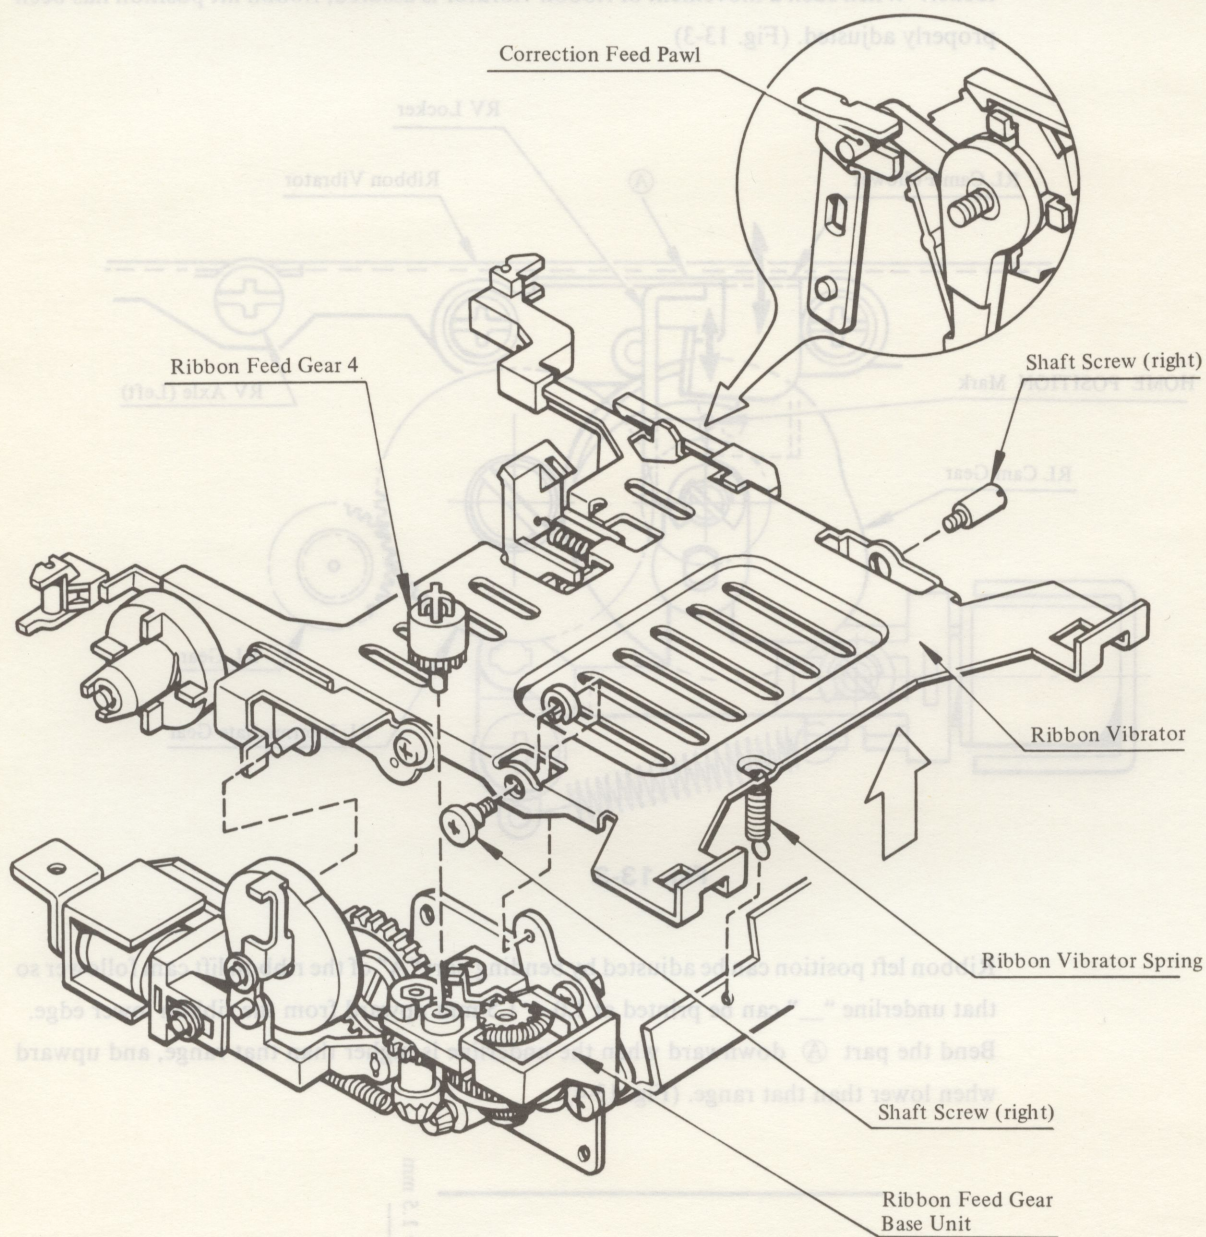

Fig. 13-1
- (2) Remove the ribbon vibrator spring. (See Fig. 13-1.)
- (3) Remove the ribbon vibrator shaft screw (right). (See Fig. 13-1.)
- (4) Remove the ribbon feed gear 4.
To remove, remove the lock pawl of ribbon feed gear base unit and separate the ribbon feed gear 4 from the ribbon feed gear base unit. (See Fig. 13-1.)